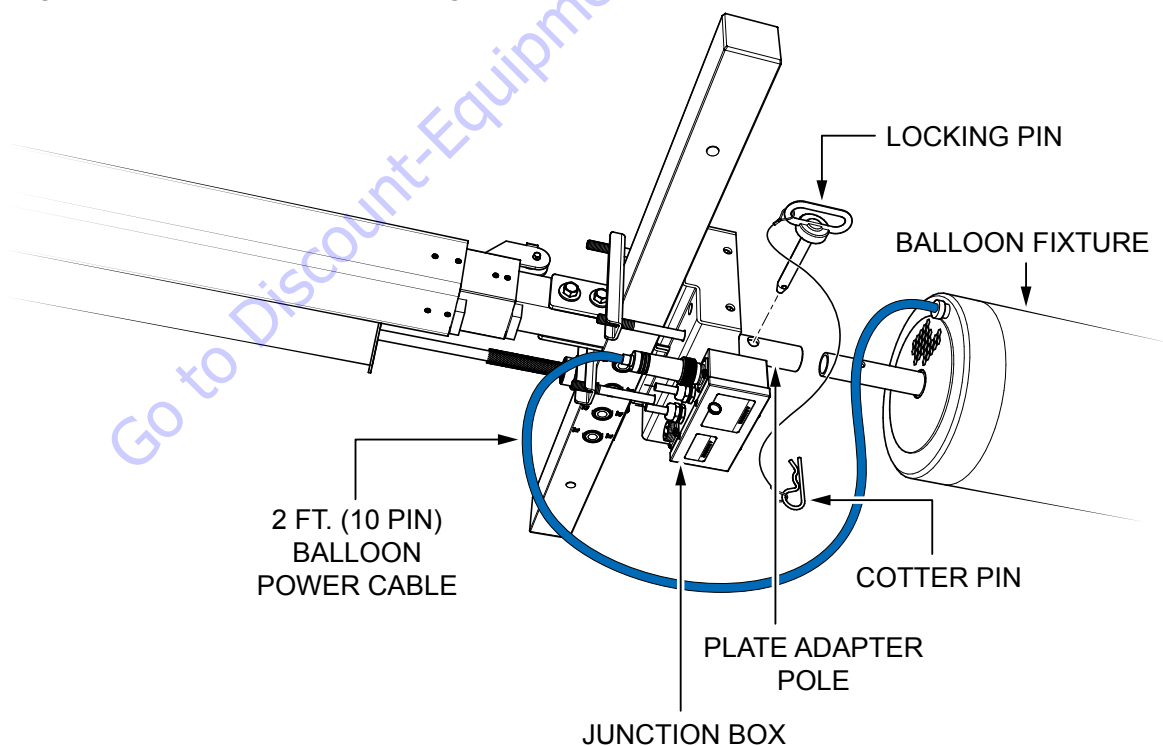

Figure 9. Balloon Power Cable Connection
1. Place the GB4000 lamp fixture onto the lamp adapter plate pole as shown in Figure 9.
1. Connect the balloon power cable (Figure 9) to the 10-pin receptacle on the junction box.